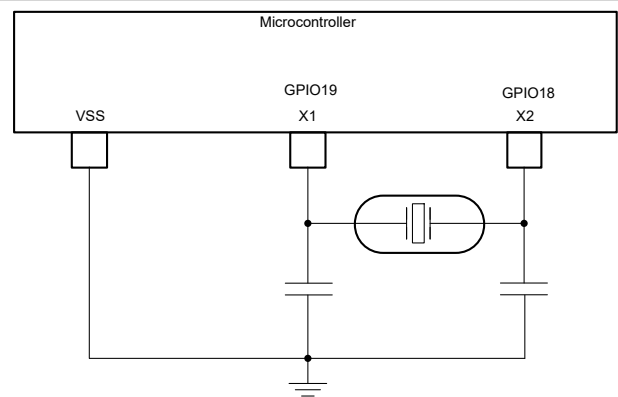

Figure 6-15. External Crystal
- An external crystal. The crystal should be connected across X1 and X2 with its load capacitors connected to VSS as shown in Figure 6-15.